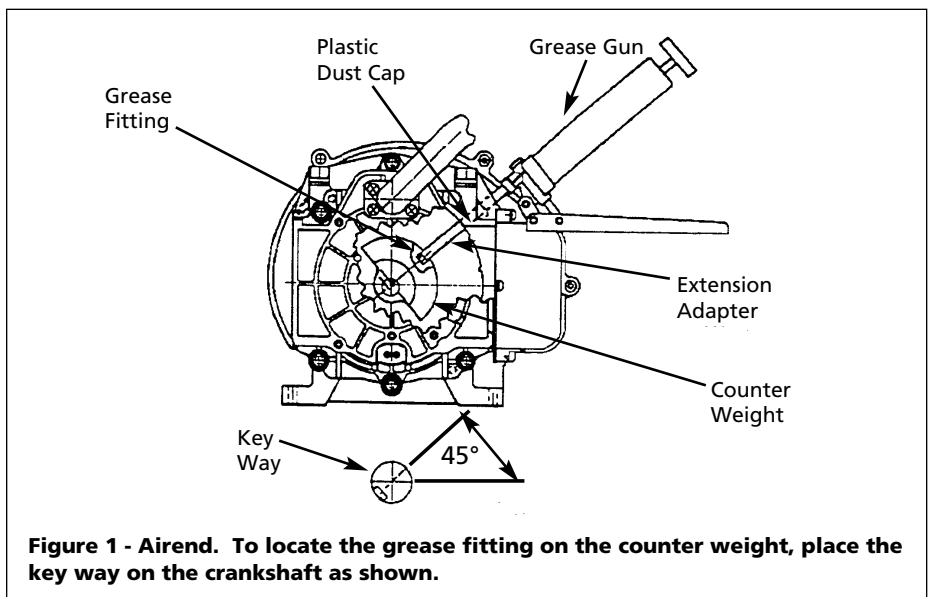

Figure 1 - Airend. To locate the grease fitting on the counter weight, place the key way on the crankshaft as shown.
1. Remove the plastic dust cap (Key #69) from the airend. See Figure 1.